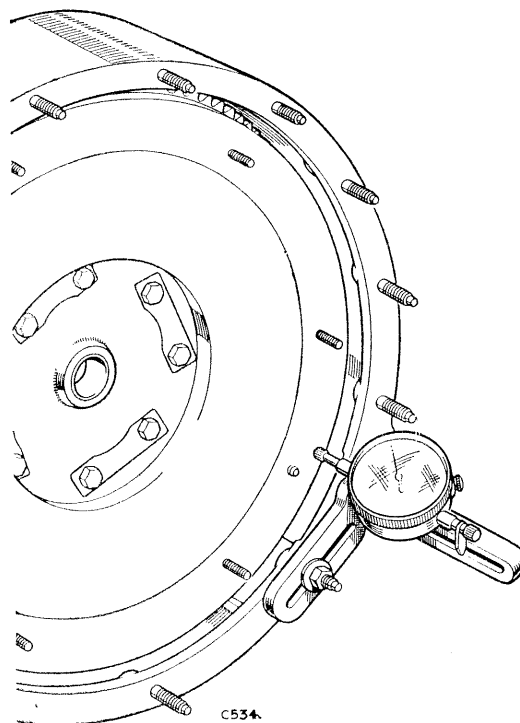

Fig. A-79—Checking run-out on flywheel face
3. Check the run-out on flywheel face as illustrated by Fig. A-79. The run-out on flywheel face must not exceed .002 in. (0,050 mm).